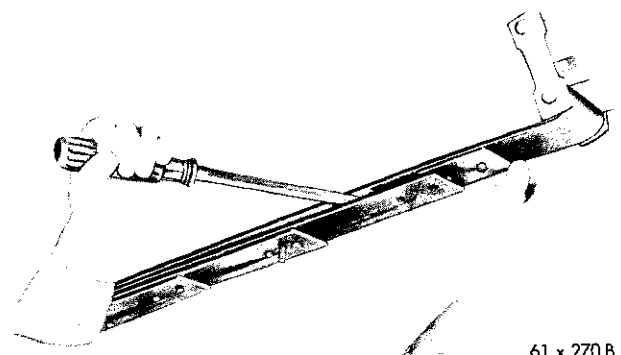

Fig. 6—Positioning the Interliner
(2) Insert the interliner between the spring leaves (Fig. 6) until the fasteners are aligned with the holes.